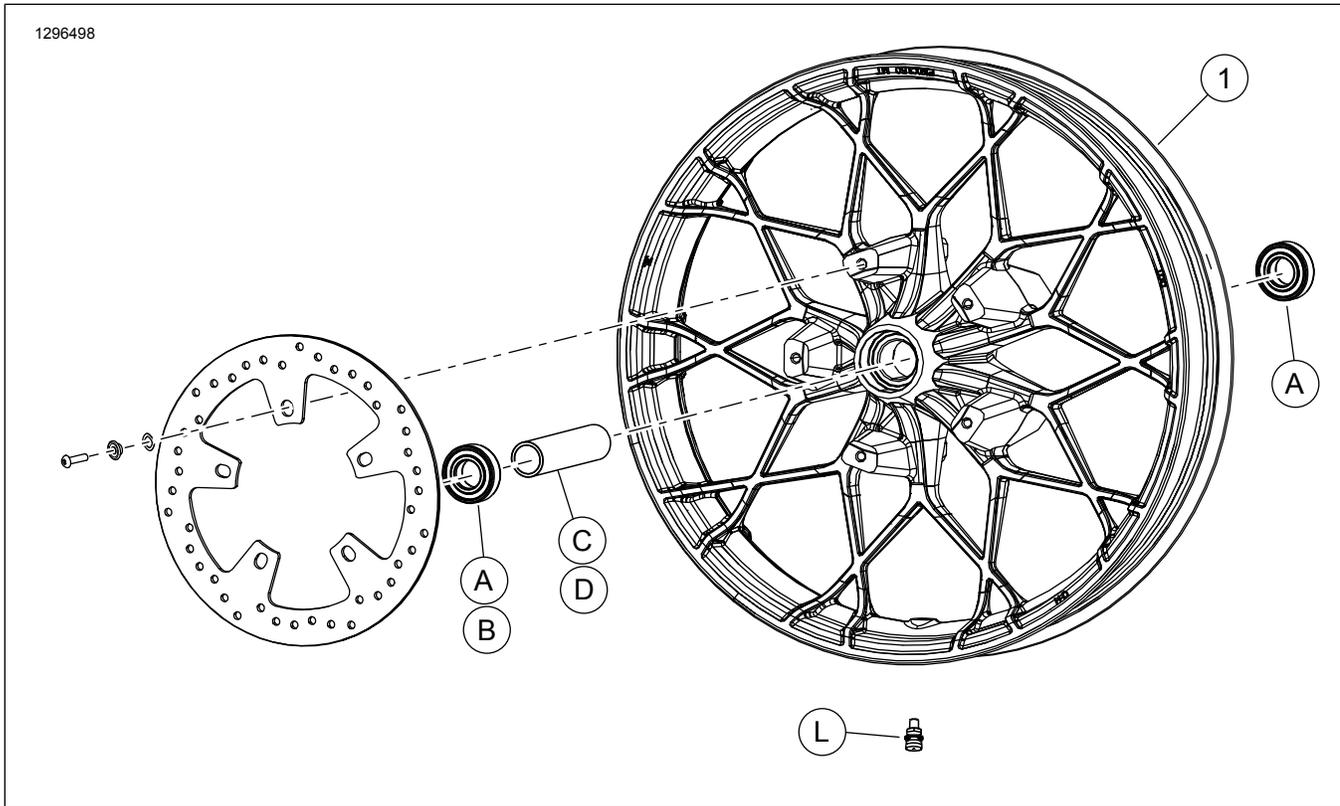

Figure 2. Service Parts: Front Wheel
This kit includes custom wheel only. See Figure 2 and Table 2.
2. See Figure 2. Install valve stem assembly (L) on wheel. See service manual.